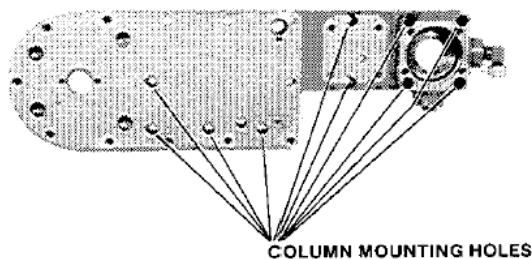

Figure 5-44. Side Plate Mounting Holes
17. Thread resistor-pack wires through gasket, side plate, gasket, and hole in column (Figures 5-44, 5-45).